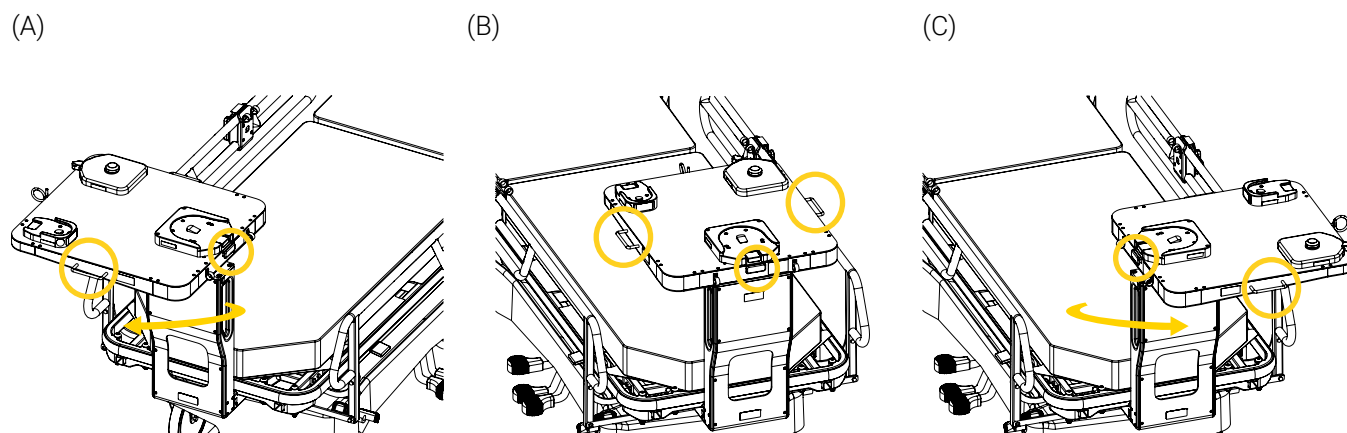

Figure 50: Rotating the medical device
1. Press and hold the quick-release button located on the back edge of the mounting table, then turn the table top 90° clockwise or counterclockwise using the handle (Figure 50). Refer to the « Activate the Safety Mechanism of the Pivoting Mounting Table » section on page 32 and « Deactivate the Safety Mechanism of the Pivoting Mounting Table » section on page 33 if needed.
2. Release the quick-release button midway, then push the table until you hear the click sound and the table is locked (Figure 50).